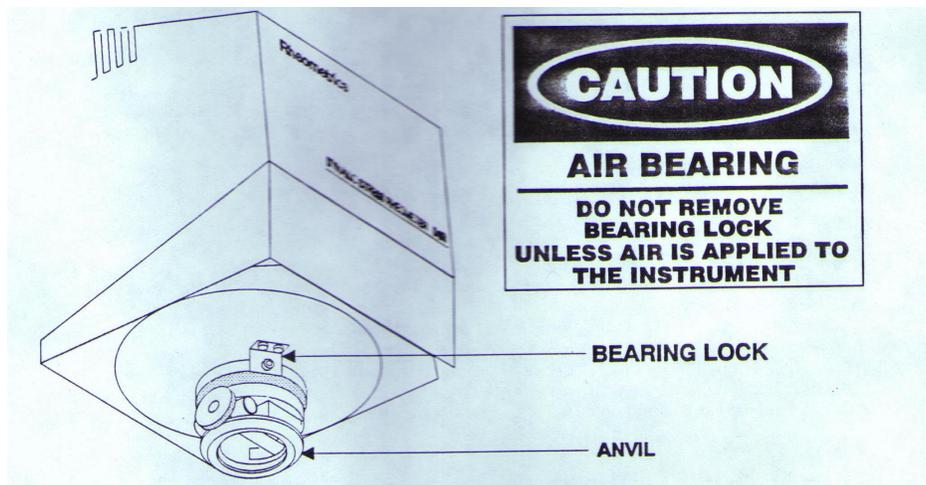

Figure 1 - location of air bearing lock
- a. In the drawer under the rheometer is a burgundy plastic container with a clear lid containing an allen wrench to remove the screw that locks the air bearing in place. (Figure 1) Put the wrench and screw back into the container and place the container back in the drawer.